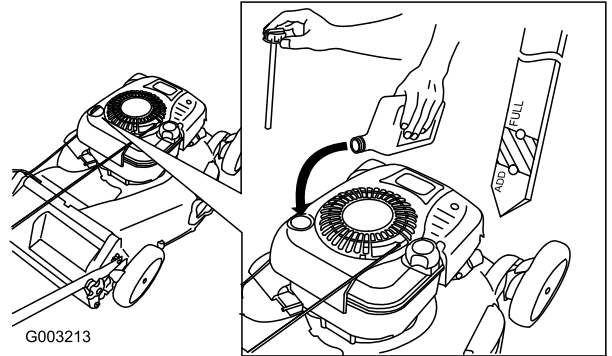

Figure 11
1. Remove the dipstick, wipe it clean, and fully install the dipstick (Figure 11).
Note: To raise the mower, move all 4 cutting height levers forward; to lower the mower, move them all rearward (Figure 11).